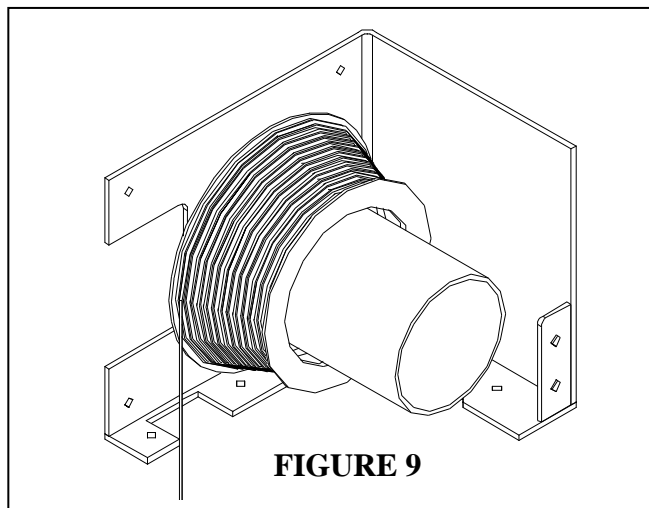

FIGURE 9
- E. Starting at the cable drum feed the other end of cable from front to back going underneath the cable drum and around. Place the stated number of pre-wraps on the cable drum as indicated on the spring tag. Ensure the cable is run in the cable grooves, in order, with none of the grooves being skipped or crossed (**Figure 9**).
- E. Starting at the cable drum, feed the other end of cable from front to back going underneath the cable drum and around. Place the stated number of pre-wraps on the cable drum as indicated on the spring tag. Ensure the cable is run in the cable grooves, in order, with none of the grooves being skipped or crossed (**Figure 9**).